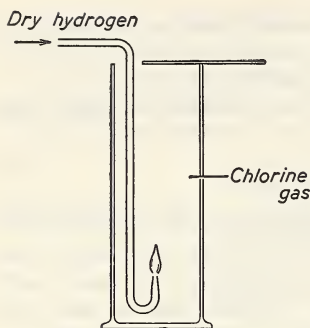

Fig. 70. The combustion of hydrogen in chlorine.
5. Set up a hydrogen generator, and attach a glass jet of the shape shown in Figure 70. When an inverted test-tube filled with hydrogen from this jet burns quietly, indicating the evolution of pure hydrogen, light the jet with the burning hydrogen, and lower it into a bottle filled with chlorine. When the flame goes out, remove the jet, and fill the hydrogen generator with water. Insert a piece of moist neutral litmus paper into the bottle, and blow your breath